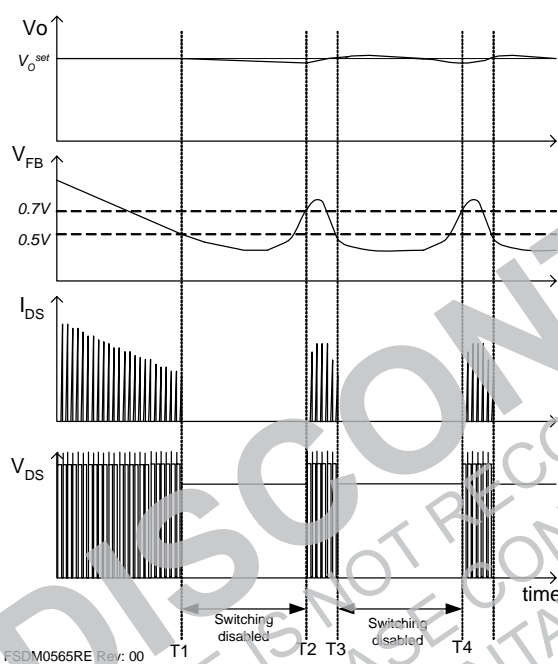

Figure 21. Waveforms of Burst Operation
5. Burst Operation: To minimize power dissipation in standby mode, the FSDM0x65RE enters burst-mode operation. As the load decreases, the feedback voltage decreases. As shown in Figure 21, the device automatically enters burst mode when the feedback voltage drops below $V_{\text{BURL}}(500\text{mV})$. At this point, switching stops and the output voltages start to drop at a rate dependent on standby current load. This causes the feedback voltage to rise. Once it passes $V_{\text{BURH}}(700\text{mV})$, switching resumes. The feedback voltage then falls and the process repeats. Burst-mode operation alternately enables and disables switching of the power SenseFET, thereby reducing switching loss in standby mode.